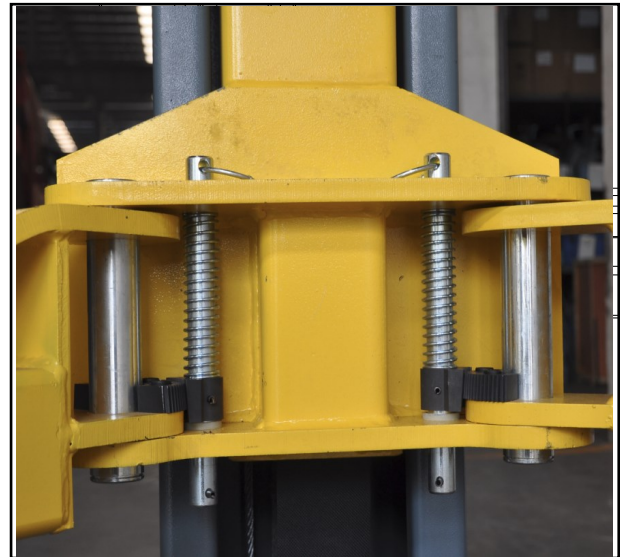

Fig. 35
- ◆ Press the up push button, raise the carriages to a height of about 70cm off the ground, then press the lock push button, **SET THE MAIN SWITCH (IG) TO POSITION 0 AND CUT OFF THE POWER SUPPLY TO THE LIFT.**
- ◆ Mount the arms into the carriage supports and insert the dowel pins into the support holes as shown in **Fig. 35**. Notice the entry of both arms is the same with the entry of the vehicle.